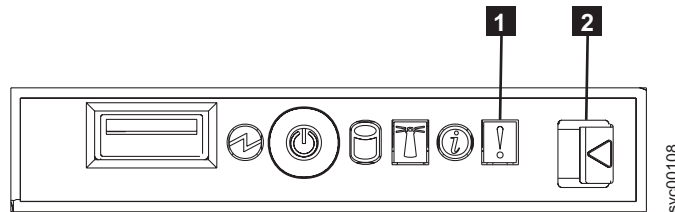

Figure 170. Operator information panel
4. Press the operator panel release latch (2 in Figure 170 on page 443) and slide the operator information panel away from the SAN Volume Controller 2145-8F2.